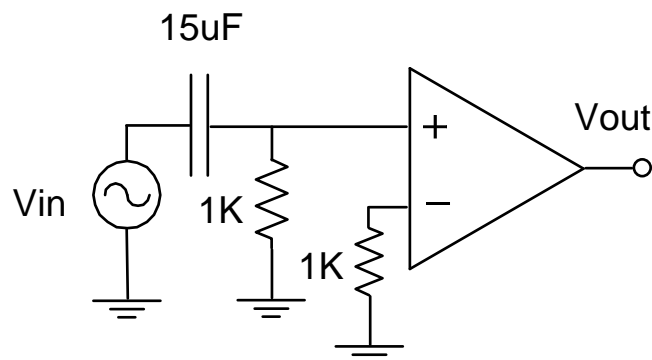
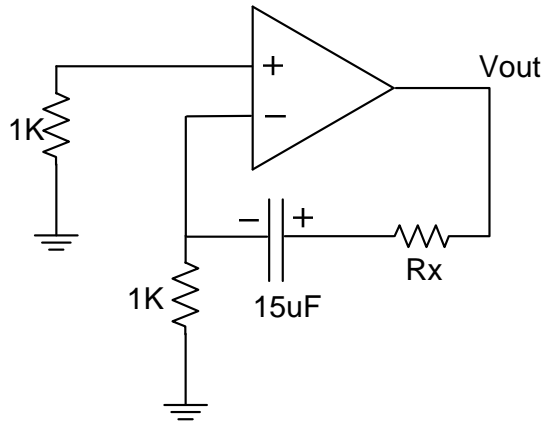

Figure 3.
Figure 4.
- (2) Measure the DC operating voltage of all nodes in the circuit. All the transistors should be in the forward active region of operation - check this.
- (3) Connect the circuit as shown in Figure 3. At 50 Hz, set the magnitude of the output of the sine wave generator so that the amplifier output is not distorted. Use the oscilloscope to measure the magnitude of the open loop gain vs. frequency from 50 Hz to 10 kHz. Also, use the oscilloscope to measure the phase of the gain vs. frequency from 50 Hz to 10 kHz. The phase can be measured by displaying the input and output signals on the oscilloscope and measuring the time delay τ from the input peak to the output peak, and then converting that information to a phase shift θ using the formula: $\theta = -360^\circ(\tau \cdot f_{in})$. Tabulate the data. From the data, determine the gain and phase margins if this amplifier is used in a feedback circuit with feedback factor of 1. (When making these measurements, it may be helpful to increase the amplitude of the input as frequency increases.)
- (4) Plot the data from the last step on the same graphs that you made in the prelab.
- (5) Connect the circuit as shown in Figure 4. Use a 100k Ohm variable resistance box for R_x . What values of R_x cause oscillation, and what are the corresponding closed-loop gains? (Assume V_{in} would be connected as shown in Fig. 3.) What is the frequency of oscillation? Relate this data to the measured and calculated open-loop gain and phase characteristics.